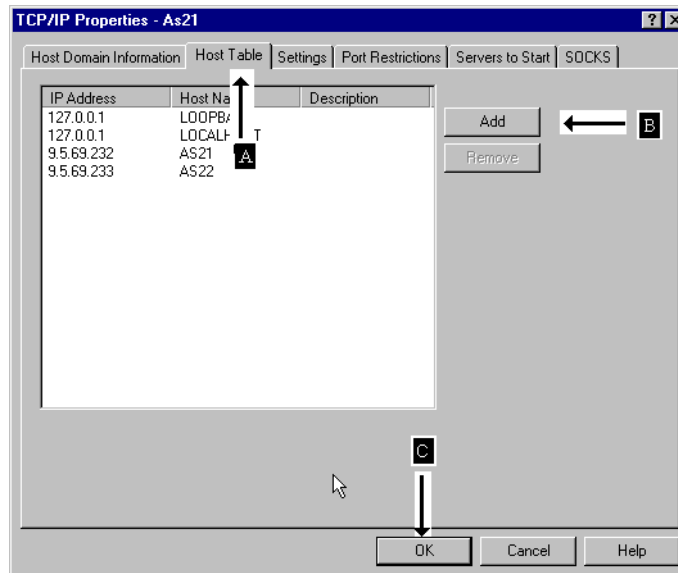

Figure 469. TCP/IP Host Table entry
3. Click the **Host table** (A) tab as shown in Figure 469.
4. Click the **Add** (B) button to specify the IP address, hostname, and description of the host that you want to include in the host table. Figure 469 shows the TCP/IP Host Table entry dialog.